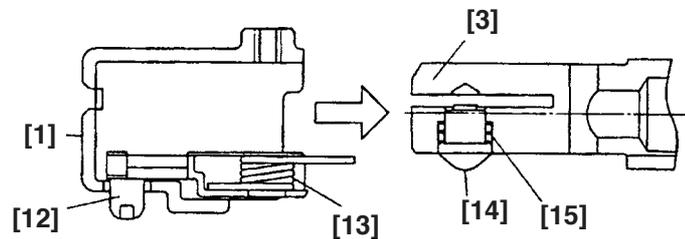

Fig. 8
#### (1) Mounting the saw blade mount (Figs. 8, 9 and 10)